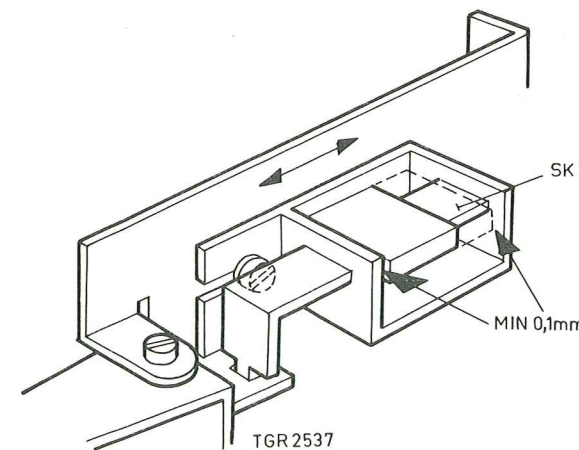

Fig. 10
Switch SK2 (see Fig. 10)
- Set the recorder to rest position (no button depressed). The clearance between the casing of the switch (front part) and the slide should be at least 0.1 mm (see Fig. 10).